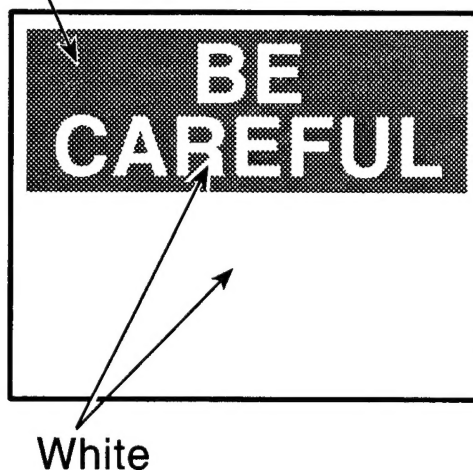

Figure 3. Example of a safety-instruction sign
■ **Design.** Design safety-instruction signs as follows; see example at figure 3 and on the front cover.